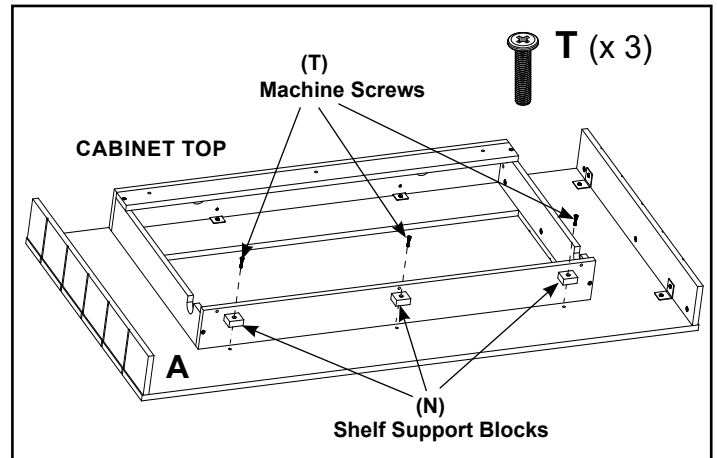

Figure 24
- Secure part "N" to part "I" using M6 x 30 Machine Screws (T). See Figure 24.